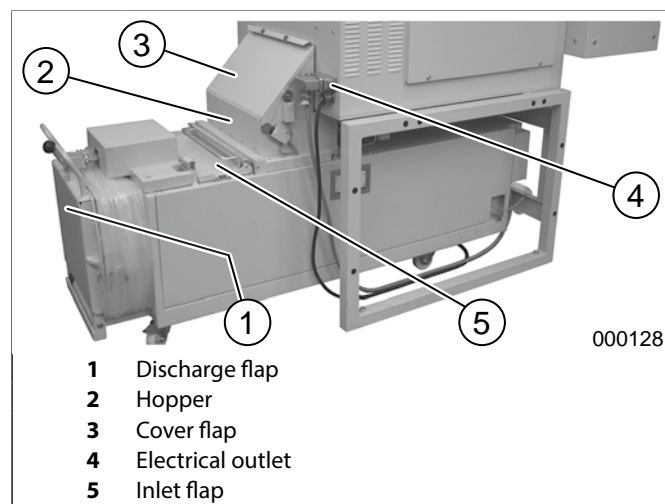
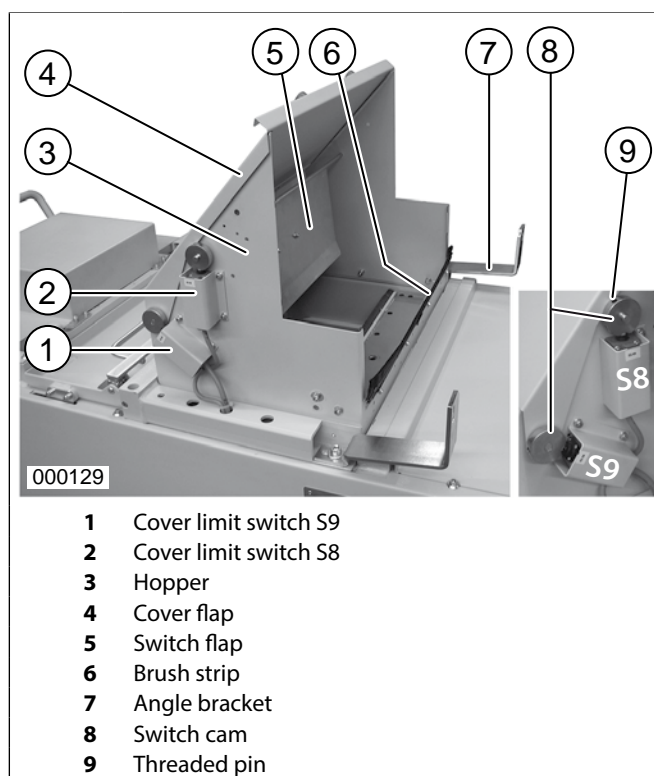

fig.2 Flaps and hopper
fig.3 Hopper
1. Release the transport lock (binder) on the outlet flap (fig. 2/1) and fold the flap down.
2. Take the hopper (fig. 2/2) out of the press compartment, as shown, place over the filler opening and fix to the press from inside with the aid of the 7 hexagon socket screws M6x12.
3. Swivel the brush strip (fig. 3/6) on the hopper up until the brush is pointing in the direction of the press compartment. Fix the brush strip to the hopper in this position with the two M6x16 hexagon socket screws and washers provided (use upper hole for fixing).
4. Remove both switch covers (fig. 3/1+2). Fix the limit switch S8 with 2 screws M4x40 and nuts M4 below the switch cam of the switch flap (fig. 3/8). Undo the threaded pin (fig. 3/9) (Allen key 2.5 mm), turn the cam into position and tighten the threaded pin again.
5. Fix the limit switch S9 with 2 screws M4x40 and nuts M4 under the switch cam of the cover flap (fig. 3/4). Undo the threaded pin (fig. 3/9) (Allen key 2.5mm), turn the cam into position and tighten the threaded pin again.
6. Position the two switch covers (fig. 3/1+2) over the limit switches and fix each to the hopper with two screws M5x16 and nuts M5.
7. Open cover flap (fig. 3/4). Check/correct position of security angle (fig. 4):
1. Push the baler under the shredder. Screw the shredder and the baler together with the aid of the two fixing brackets (fig.3/7) provided with the shredder (fig. 2).
4. Insert and secure the connecting plug of the baler in the electrical outlet (fig.2/4) at the housing rear panel.